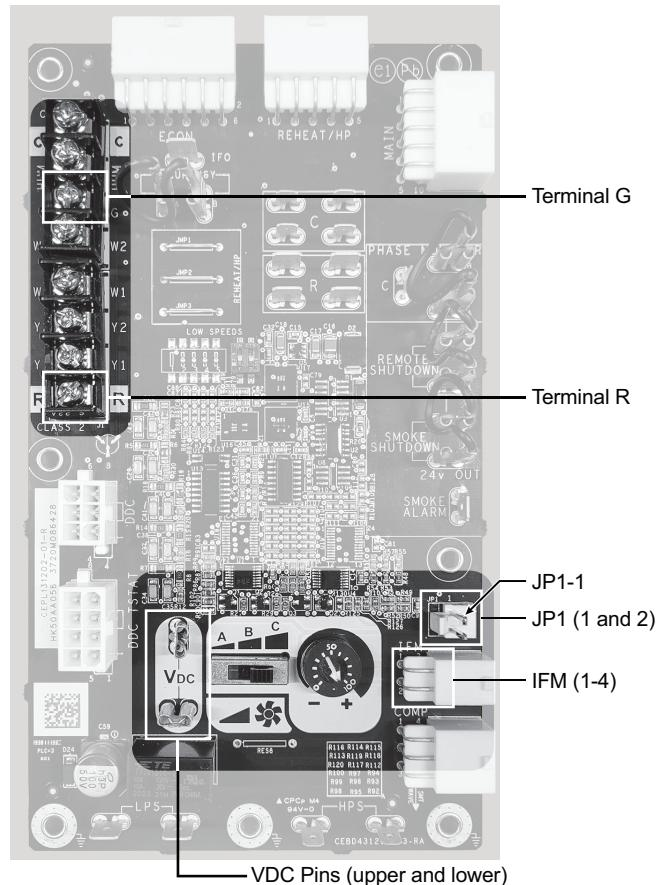

Fig. 10 – Testing Locations on Unit Control Board (UCB)
9. Using a jumper wire from unit control terminals R to G, engage motor operation. See Fig. 10.
10. Verify control signal from user speed selection switch by placing voltmeter taps in provided terminals marked VDC. Signal should be between 3.8 vdc and 10.3 vdc. See Fig. 10.